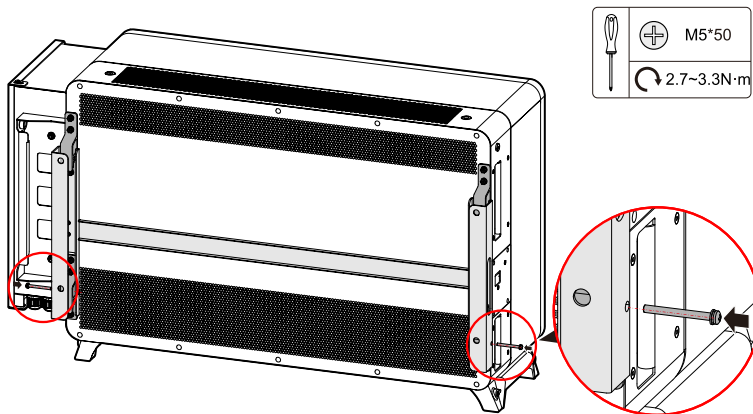

Figure3-17 Fix inverter
Step 6 Fix inverter to the installation holder through the equipped M5*50 screws, as shown in Figure3-17.